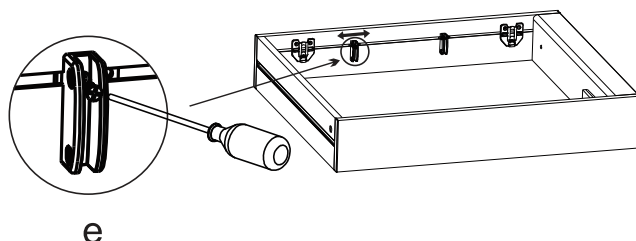

Fig.14
- 4.3.Loosen the fixing screw (e)and adjust the position of the shelf glass, Fig.14